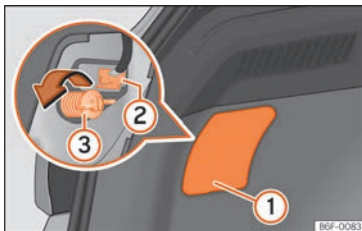
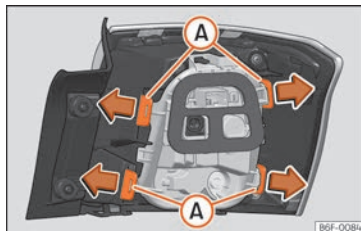

Fig. 51 Luggage compartment: access to the bolt securing the tail light unit.
Fig. 52 Retaining tabs on reverse side of tail light.
- Remove the lid, levering the flat side of a screwdriver into the recess »» **Fig. 51 ①**.
- Remove the bulb connector **②**.
- Unscrew the light securing bolt **③** by hand or using a screwdriver.
- Remove the bulb holder unlocking the retaining tabs »» **Fig. 52 A**.